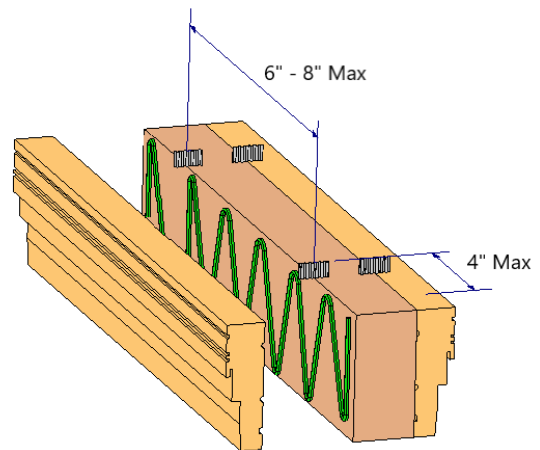

Figure 1
- Apply 3/16" bead liquid nails between mulling material and the unit (figure 1), **butter out the liquid nails.**
- Apply corrugated staples 3" from ends of mull and 6"- 8" spaced down the length of the mull, securing the mull material to the unit (figure 1).